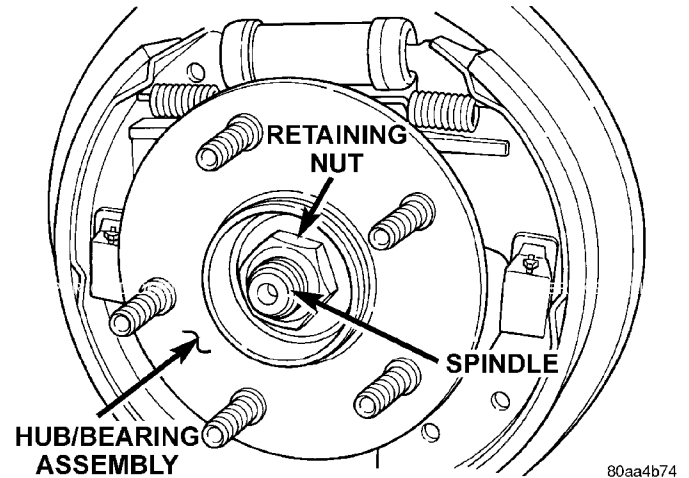
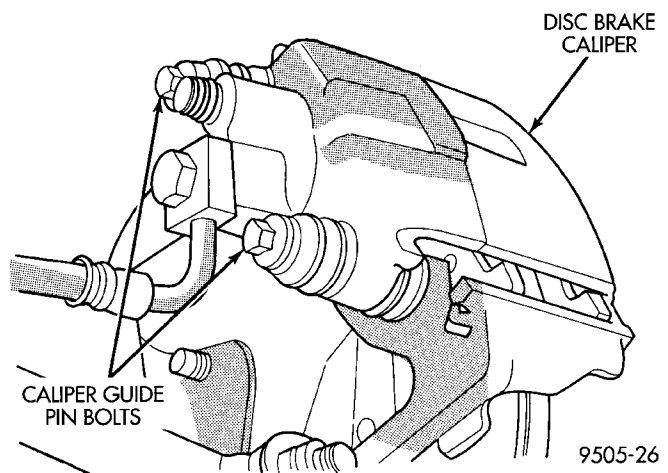

Fig. 99 Hub/Bearing Assembly Retaining Nut
Fig. 100 Caliper Guide Pin Bolts
(5) Remove the retaining nut (Fig. 99) mounting the hub/bearing to the rear spindle.
(6) Remove the hub/bearing from the rear spindle by pulling it off the end of spindle by hand.
(1) Position hub/bearing assembly on rear spindle.
(2) Install a **new hub nut** (Fig. 99) and tighten to a torque of 217 N·m (160 ft. lbs.).
(3) Install the dust cap, on the hub/bearing using a soft faced hammer.
(4) On drum brake equipped vehicles, install the brake drum on the hub/bearing. On vehicles equipped with rear disc brakes, install the rotor on the hub/bearing.
(5) On disc brake equipped vehicles install the disc brake caliper on the adapter. Install the 2 guide pin bolts (Fig. 100) mounting the disc brake caliper to the adapter. Tighten the guide pin bolts to a torque of 22 N·m (192 in. lbs.). Refer To Rear Disc Brake Service in this group of the service manual for the required caliper installation procedure.